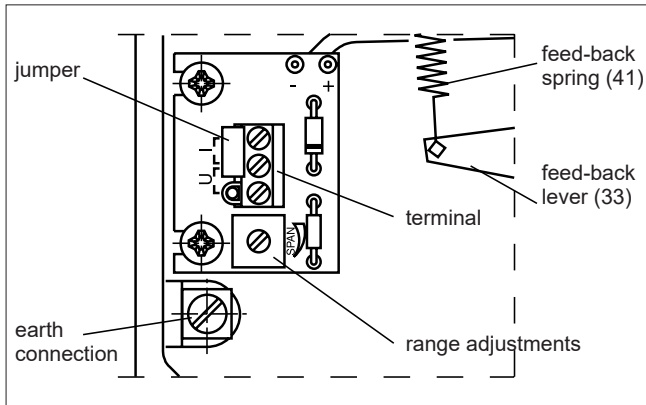

Fig. 6. Terminal card
Connect C1 and C2 (1/4 NPT) to the actuator according to Fig. 6.
Place a plug in connection C1 or C2. See Figure 6.
Figure 6 assists in choosing the right segment for the cam plate (29) and position for the changeover piece (46).
External changes in the tubes are not needed. Positioner NE727 is an exception (DIA6HC pilot valve). Then the changeover piece must always be in position R and the external tubes mounted in accordance with Fig. 6.
Choose the position of the changeover piece, D or R, from Fig. 6 in accordance with the function desired.
Choose the side, A or B, and the rising segment of the cam plate from Fig. 6 in accordance with the function desired.